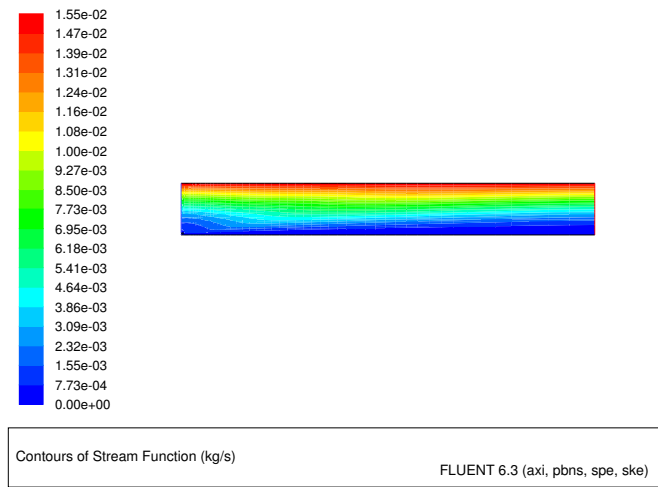

Figure 13.7: Contours of Stream Function: Variable C_p
4. Display filled contours of stream function (Figure 13.7).